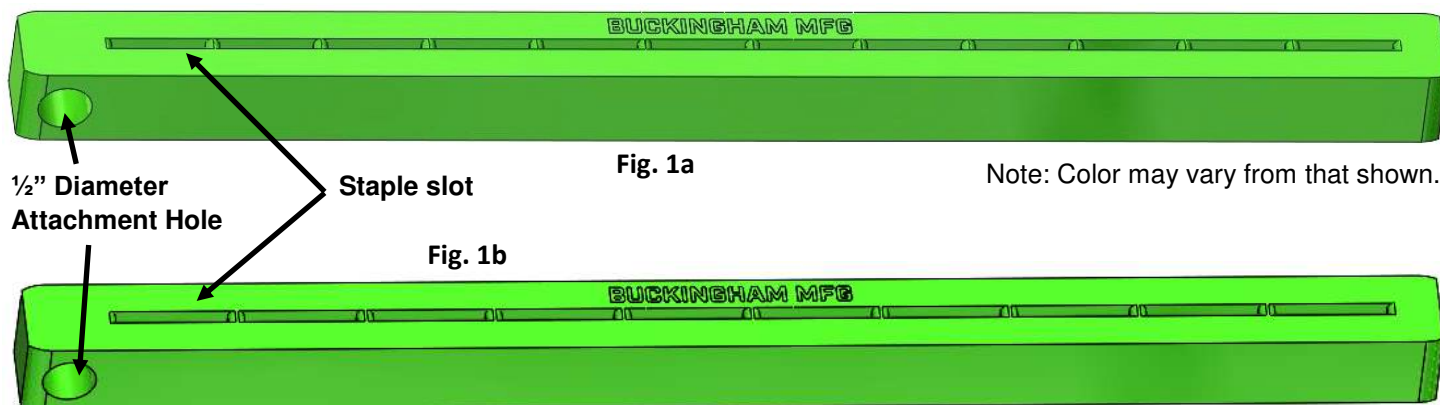

Fig. 1a
- PN 574 Staple Stick (Fig. 1a) will hold 12 staples of varying diameter (0.140" – 0.150") up to 7/8" wide.
The ½" diameter attachment hole located in the end of the staple stick (Fig. 1a and 1b) is designed to allow the stick to be stored on a Buckingham Mfg. PN 2404G handline carrier, PN 2404 BuckTender, insertion of a standard carabiner for attachment to an approved point on a user's Body Belt or Full Body Harness or attachment to a handline hook.